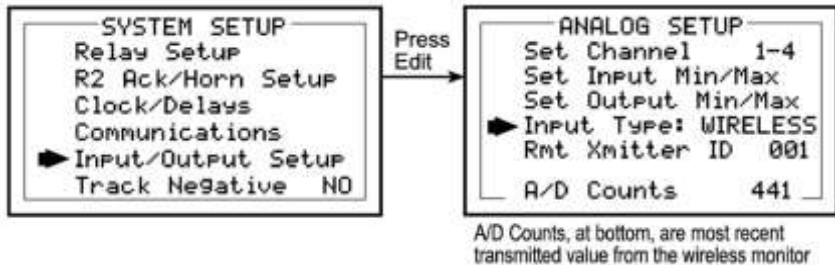

Figure 5.3
Use the **WIRELESS** setting shown at right of Figure 5.3 ONLY FOR COMMUNICATION TO OLCT 200 WIRELESS TRANSCIVERS.
**Wireless MODBUS** allows one or many WX4s to function as wireless ModBus *slaves* by selecting **wireless MODBUS** in the **COMM SETUP** menu (Figure 5.3). These wireless networks require a ModBus *master* such as a DCS, HMI, or other Oldham WX-Series Controller; also equipped with a radio modem. As in all WX-Series wireless networks, one transceiver must be designated as Server and all others as Clients. No special configuration is required by the *master* or *slave* since this is a standard ModBus network. However, radios must have the same **Hop Channel** and **System ID** settings to communicate.